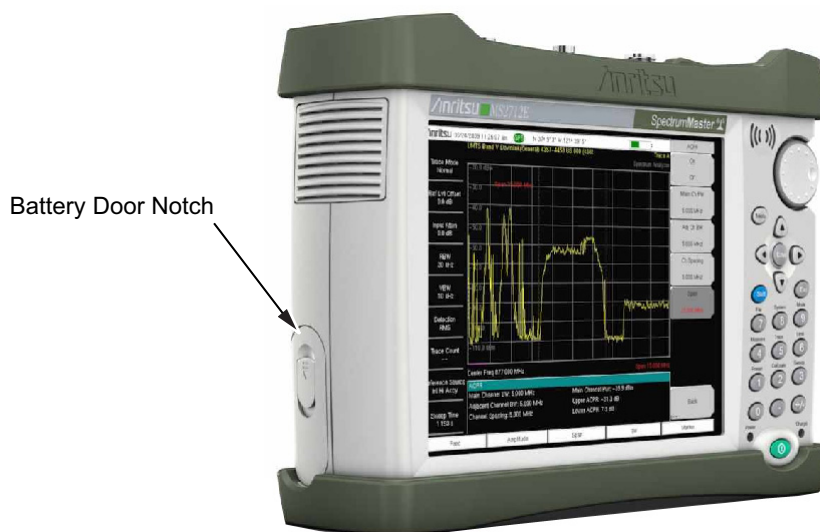

Figure 4-2. Battery Access Door Notch
2. Place a finger in the battery access door notch and push the door latch down towards the bottom of the instrument, as illustrated in Figure 4-2.